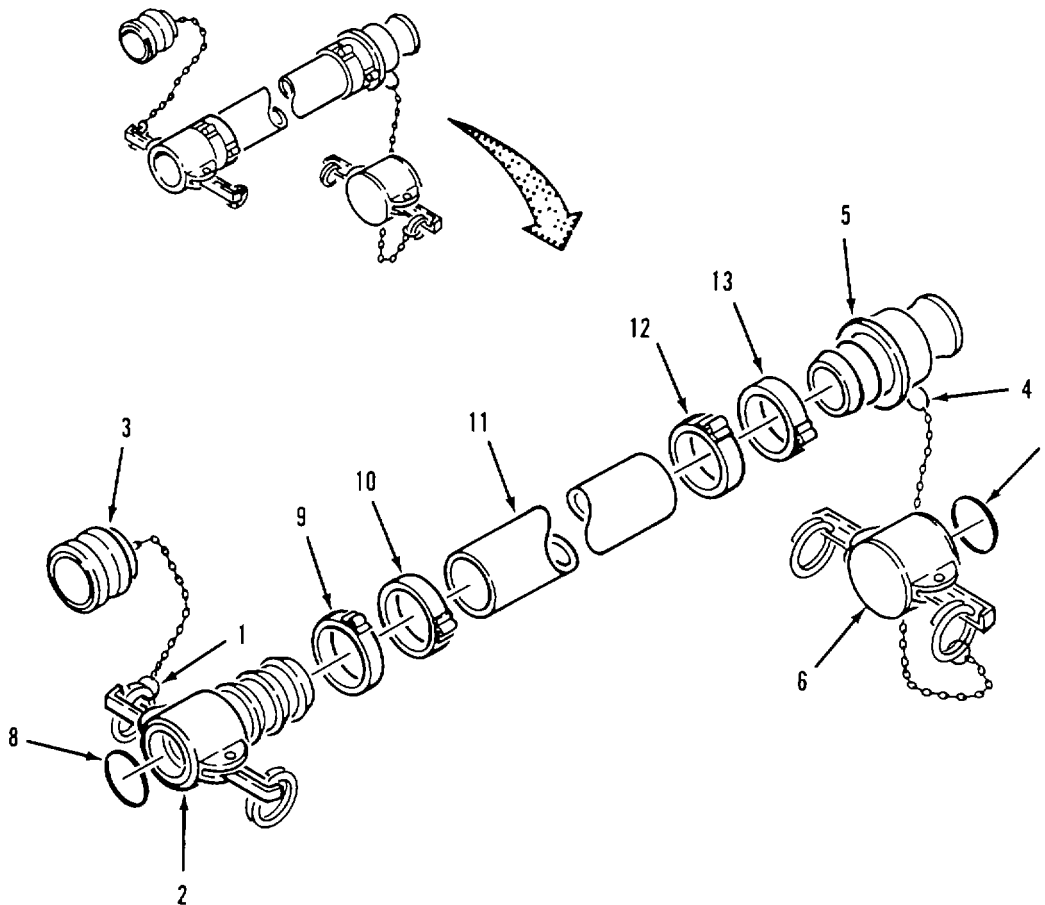

Figure 4-2. Discharge and Suction Hose Disassembly
a. Disassembly Refer to figure 4-2
- (1) Disconnect split ring (1) from female coupling (2) and remove dust plug (3)
- (2) Disconnect split ring (4) from male coupling (5) and remove dust cap (6)
- (3) Remove gasket (7) from dust cap (6)
- (4) Remove gasket (8) from female coupling (2)
- (5) Cut strapping (clamps) (9 and 10) from hose (11) Pull female coupling (2) from hose
- (6) Cut strapping (clamps) (12 and 13) from hose (11) Pull male coupling (5) from hose
c Inspection. Refer to figure 4-2
- (1) Push male coupling (5, figure 4-2) and female coupling (2) into hose (11).